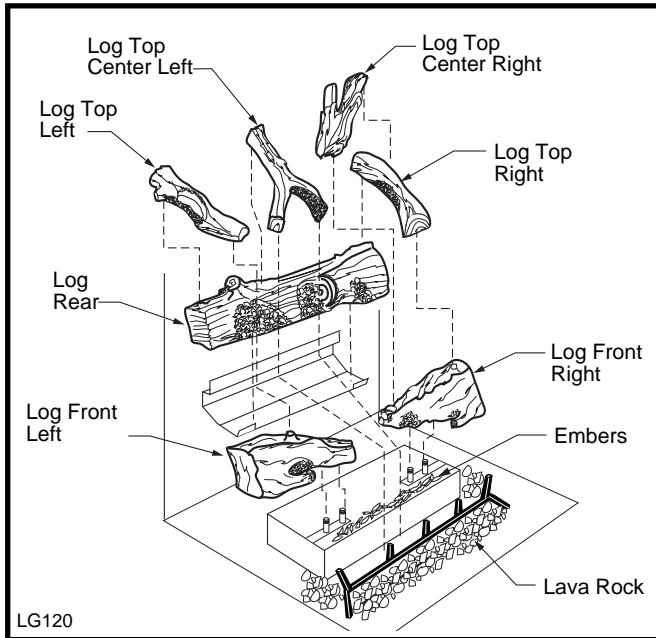

Fig. 11 NV580 log, lava rock and ember placement.
7. Place top cross logs onto locator notches. Ensure logs are secure. (Fig. 11 or 12)